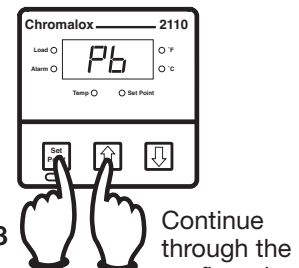

Figure 4.8
- Press and hold the Set Point (\hookrightarrow) button and press the \uparrow button to advance to the next menu. See Figure 4.8. (Holding the Set Point (\hookrightarrow) button and pressing the \downarrow button moves through menus in the opposite direction.)